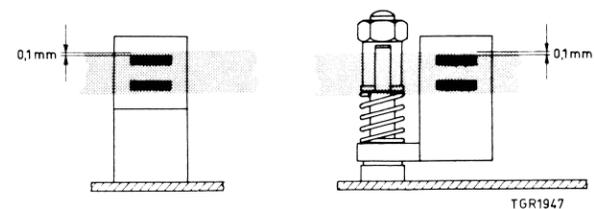

Fig. 9
- . Remove spring item 87.
- . When bracket item 100 is pressed back the button with bracket can be removed.
Replacing the erase head, item 76 Fig. 9
The new erase head should be fitted underneath the lefthand tape guide. The correct height of the erase head can be adjusted by inserting shims, code number 4822 532 30095 underneath the head around the tape guide, see Fig. 9.